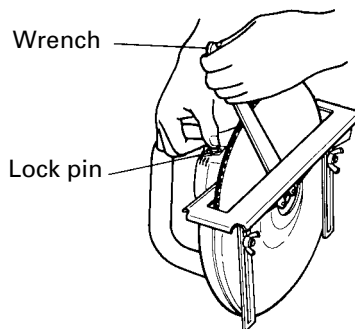

Fig. 3
- (1) Turn the machine upside down so that the spindle is facing upward.
- (2) Mount the wheel washer onto the spindle.
- (3) Fit the protuberance of the cutting wheel onto the wheel washer.
- (4) Put the inner washer on the cutting wheel, and screw the wheel nut onto the spindle.
- (5) Insert the lock pin to prevent rotation of the spindle, and tighten the wheel nut with accessory wrench, as shown in Fig. 3.